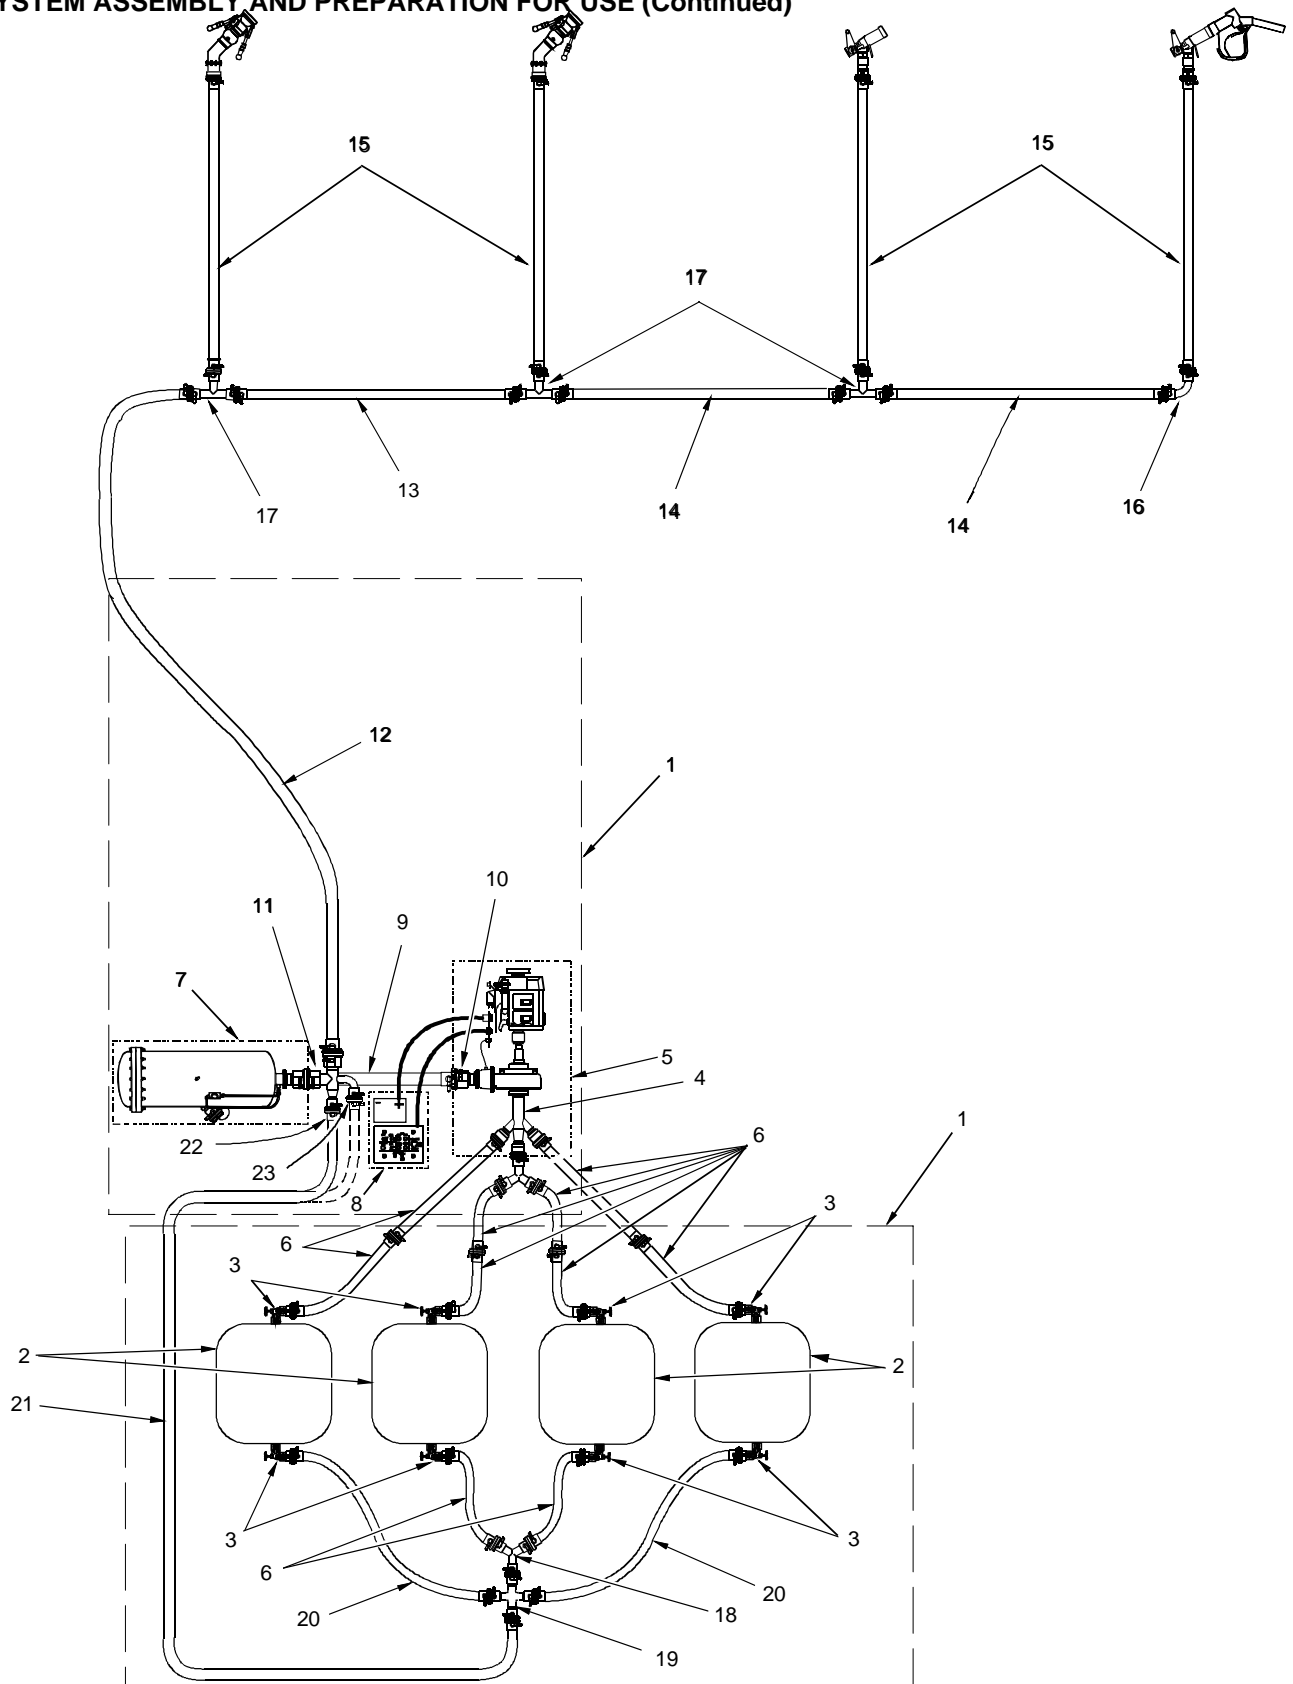

Figure 1. AAFARS Emplacement
Figure 1 illustrates a typical AAFARS emplacement. Actual emplacement may require a slightly different configuration due to terrain or mission constraints.
4. Position fuel drums (figure 1, 2) on spill containment unit (1). Fuel drums (2) may roll. Insert chocks or dirt berms on both sides. If necessary to tow drums to spill containment unit:
8. Inspect the eight fuel drum elbow valve couplings (figure 1, 3) to ensure that each elbow valve coupling (3) is closed (valve stem fully extended).
9. Install the elbow valve couplings (3) on the inlets and outlets of all four fuel drums.
10. Install one adapter assembly (2" unisex non-valved coupling to 2" male camlock adapter) (figure 5) on each elbow valve coupling (figure 1, 3).
Figure 1 indicates the use of eight suction hoses to connect four fuel drums to the fuel transfer pump inlet manifold. Actual set up may require fewer than eight suction hose lengths.